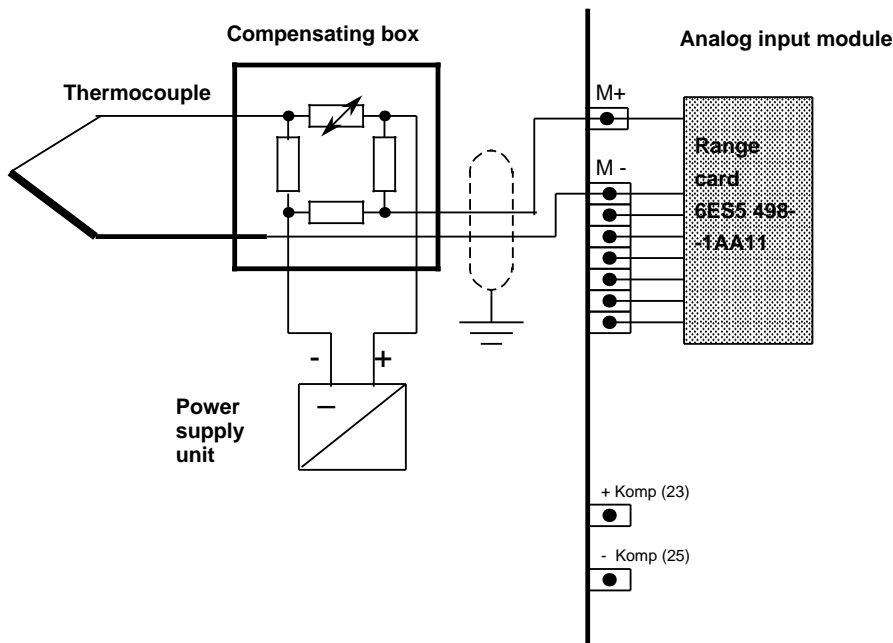

Figure 7-6. Connecting a Compensating Box to the Input of an Analog Input Module
- Run the remaining terminal leads from compensating box and thermocouple to the analog module (terminal M+ and M - see Figure 7-6).